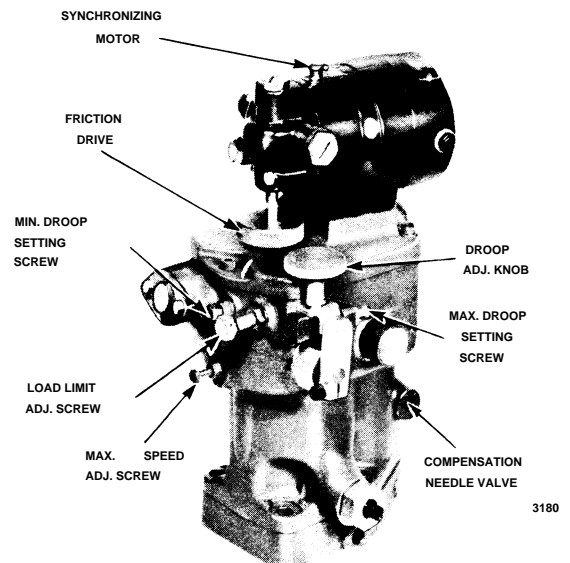

Fig. 2 - Bodine Synchronizing Motor Mounting
- Bodine motors (Fig. 2) are mounted horizontally on the governor covers and use a 90 degree offset drive connected through a reduction gear on the motor and a friction drive.